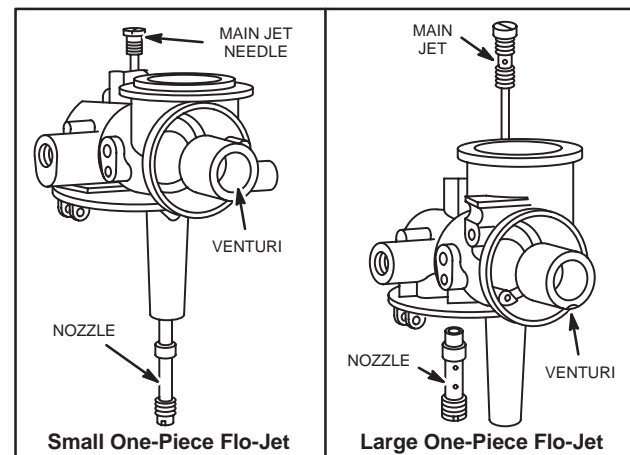

Fig. 260 - REPAIR CARBURETORS
3. Use Tool #19280, Carburetor Screwdriver, to remove emulsion tube, Fig. 260.
4. Venturi can now be removed, Fig. 260. (Large One-Piece CHOKE-A-MATIC® carburetors have a choke plate stop pin which must be pulled out to remove venturi.)
3. Install jet on small One-Piece or nozzle on large One-Piece Flo-Jet. The nozzle or jet holds venturi in place, Fig. 260.